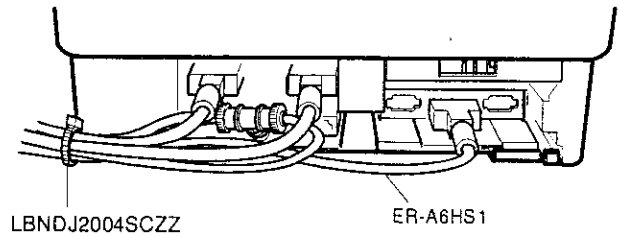

Fig. 6
- 1) The picture below shows how to pull out the cables from the left side. (Fig. 6)